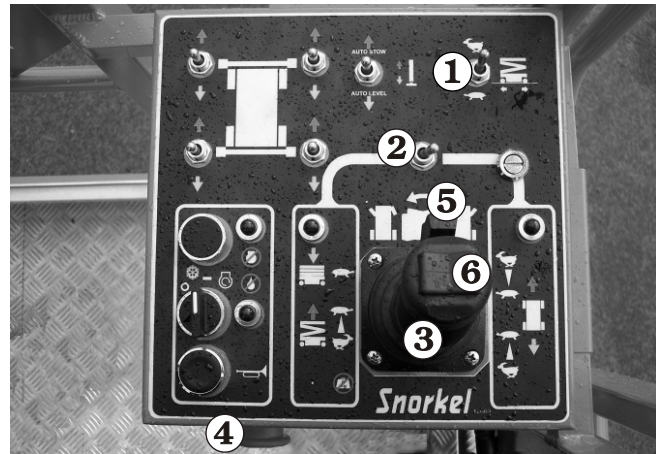

Figure 8.18
2. Set the **Speed** switch ① to turtle (slow) (see Figure 8.18) if you are going to be driving close to other objects or need to move the S3370RT / S2770RT very slowly for other reasons.
3. Set the **Lift/Drive Selector** switch ② to drive (right) (see Figure 8.18).
4. Squeeze and hold the **Safety Control** ⑤ against the Joystick Controller ③ (see Figure 8.18).
5. Push the Joystick Controller ③ (see Figure 8.18) slowly forward or pull it slowly backward, depending on which way you want to go. The further you move the joystick the faster the S3370RT / S2770RT moves.
6. To make a right or left turn, press and hold the **Steering** rocker-switch ⑥ on top of the Joystick Controller ③ (see Figure 8.18).